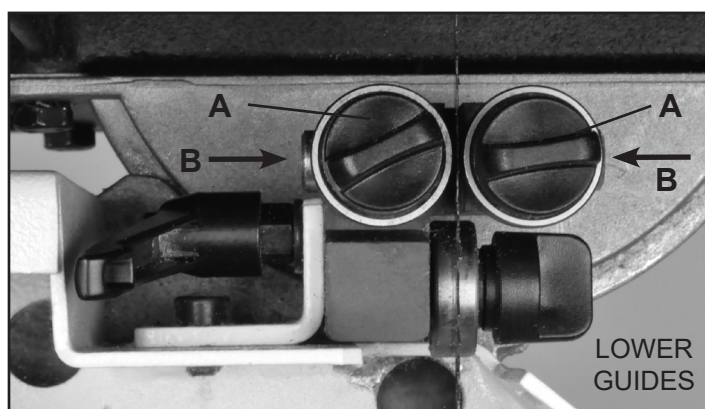

FIGURE 25
1. Position the right and left roller guides close to the blade. Loosen the front Lock Handles (FIG. 25, A). Move the guides towards the blade by pushing the ends of the Guide Shafts (B), or use the front lock handles to pull the guides towards the blade. Lock the guides in place. FIG. 25